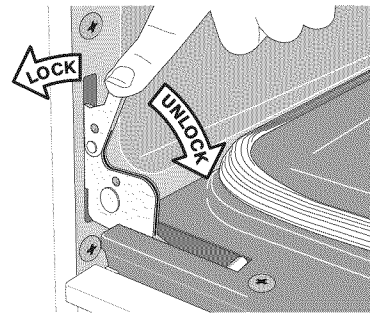

Figure 46: Hinge lock/unlock positions
2. Pull the door hinge locks on both left and right door hinges down from the oven frame completely towards the oven door (Figure 46). A tool such as a small flat-blade screwdriver may be required.
4. Push the door hinge locks up towards and into the oven frame on both left and right oven door hinges (Figure 46) to the locked position; then, close the oven door.